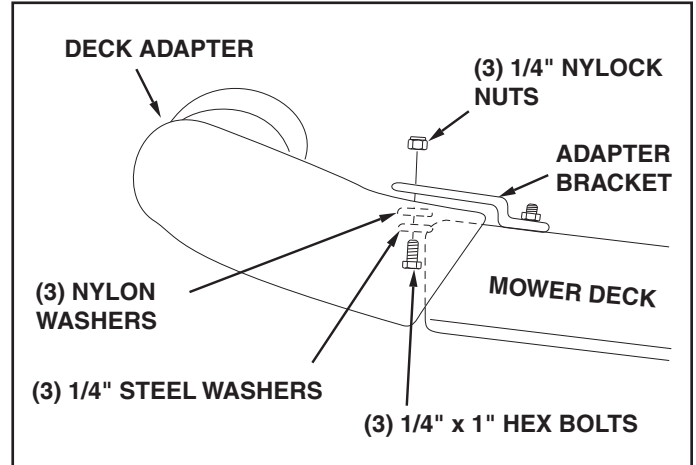

FIGURE 19
- With deck adapter positioned correctly over the discharge opening, use the adapter bracket as a template and drill three 9/32" diameter holes in the top of the deck adapter. See figure 19.
- Bolt deck adapter to bracket using three 1/4" x 1" bolts, nylon washers, 1/4" flat washers and 1/4" nylock nuts. Nylon washers should be against the inside of the deck adapter. See figure 19.